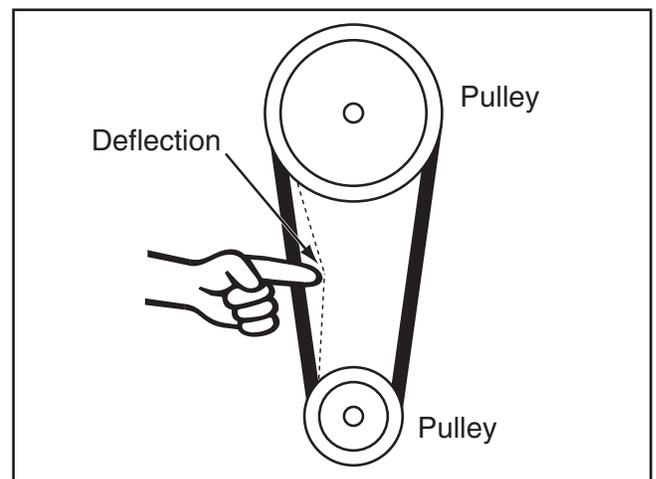

Figure 19. Belt deflection.
5. Move the belt tension lever down, adjusting tension so that when the belt is pressed with moderate force, $\frac{1}{2}$ " of belt deflection is measured as shown in **Figure 19**, then tighten belt tension lever screw.